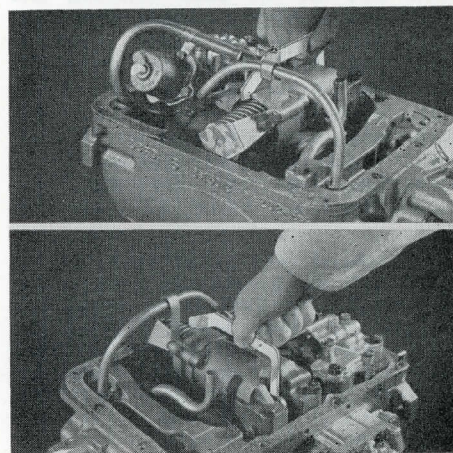

Figure 7
1. Place the servo gauge (AT-54) on finished surface of accumulator body with leg of gauge resting on the rear servo stem. Fig. 7.